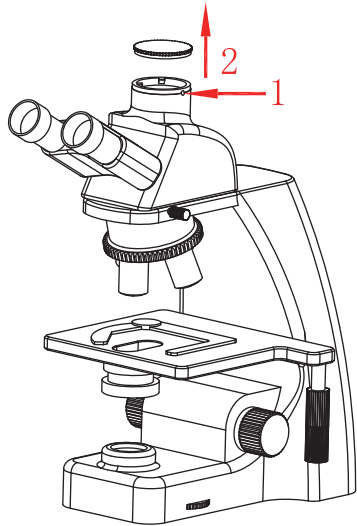

Figure 1
- (1) Remove the dust cover of microscope standard C -mount, as shown in Figure 1.